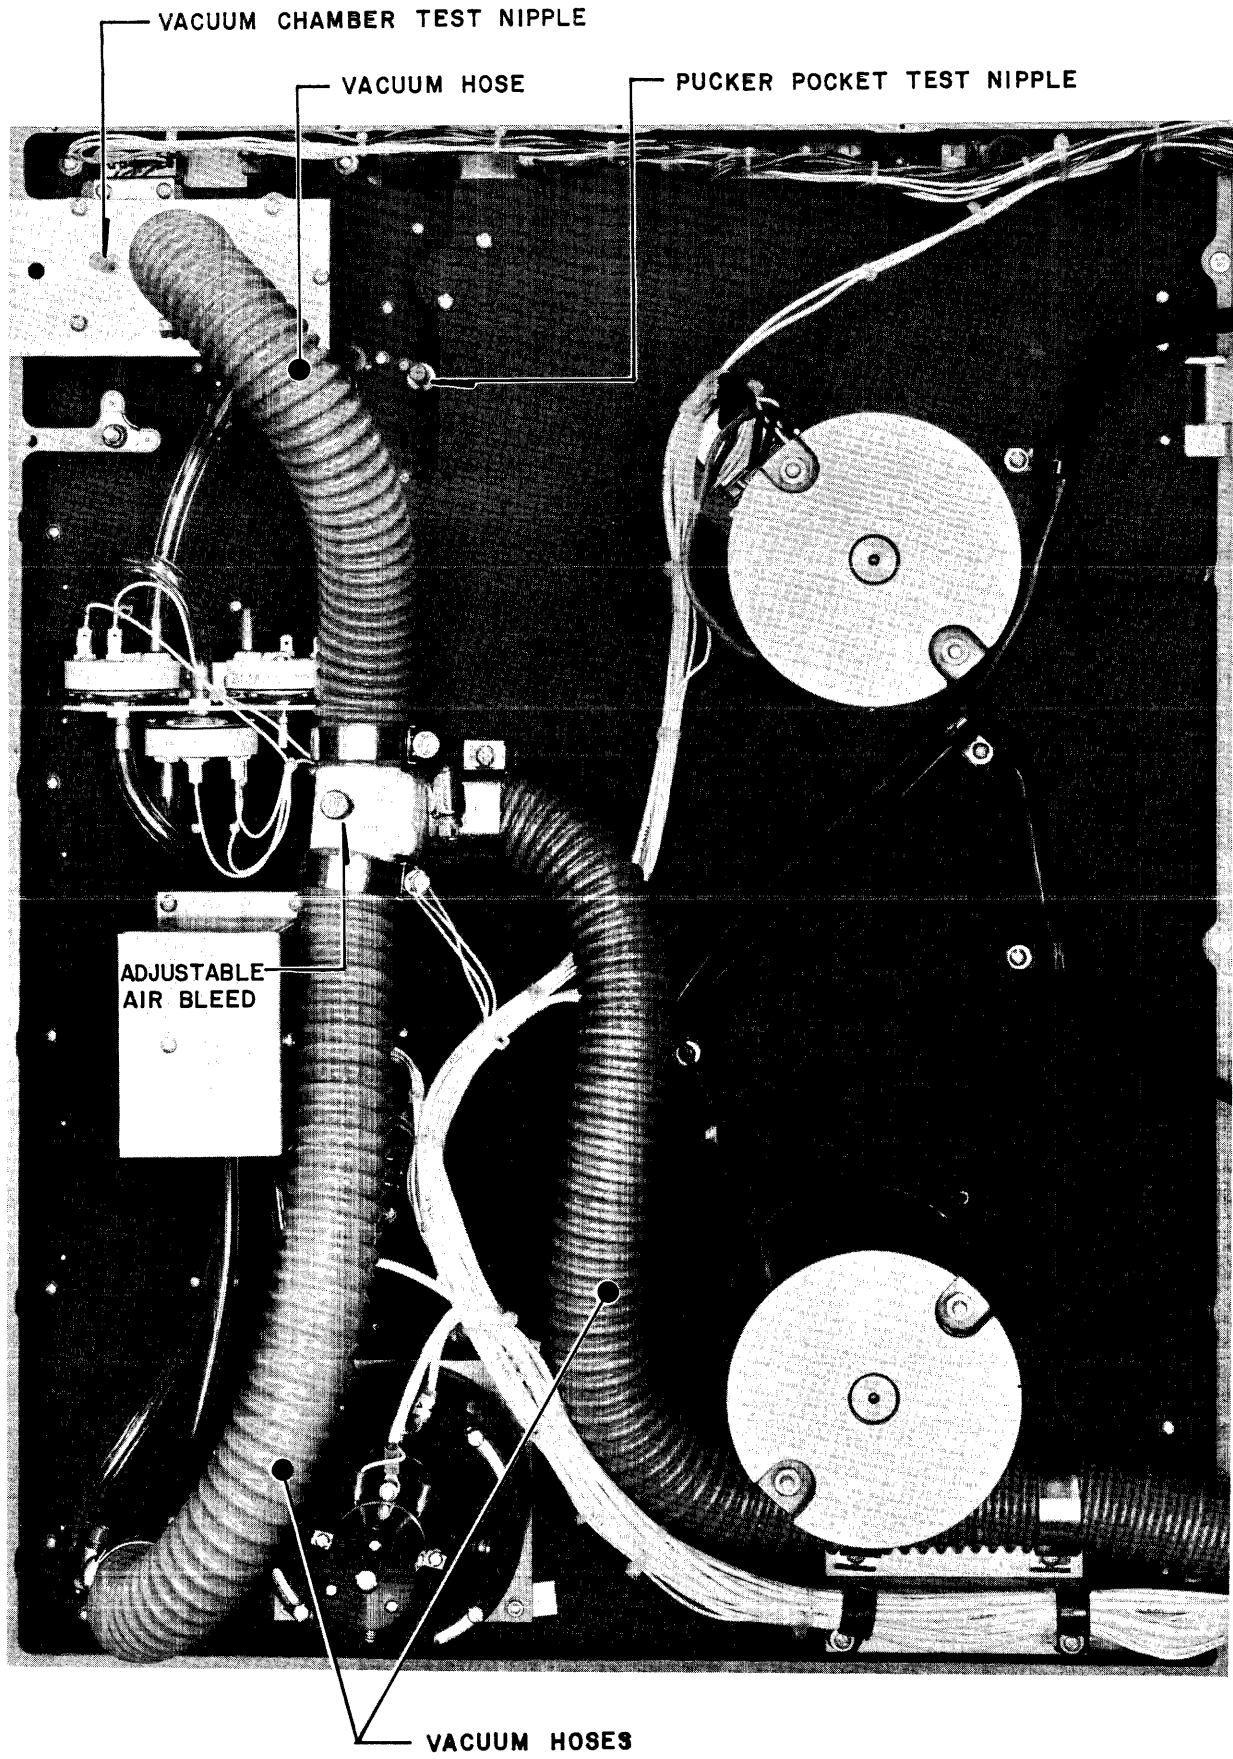

Figure 46. Vacuum Adjustment
2. Connect a vacuum gauge to the test nipple. See Figure 46.
3. Set the vacuum by means of the adjustable air bleed as shown in Figure 46. The vacuum pressure in the chambers shall be set to  $30 \pm \frac{1}{4}$  inches of water. Cap the nipple after removing the gauge.
1. Connect a vacuum gauge to the test nipple. See Figure 46.